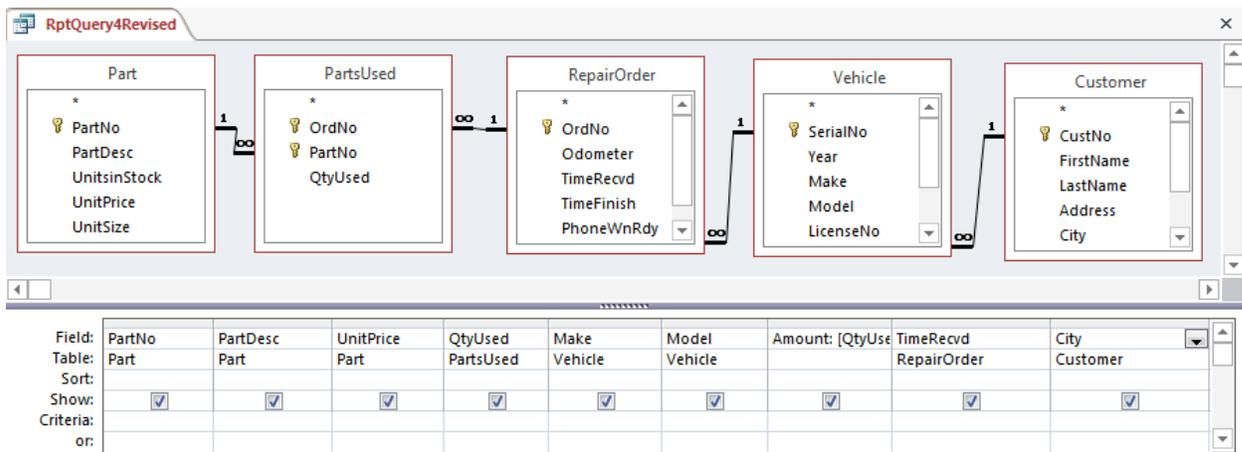

Figure 23: Revised Query for the Modified Pivot Table
1. Modify the Underlying Query in Access: Add the *Customer* table to the Query Design window as shown in Figure 23. Then, add the *RepairOrder.TimeRecvd* field and the *Customer.City* field to the query result. Save the query as “RptQuery4Revised” when you finish with the changes. Close the Access database.